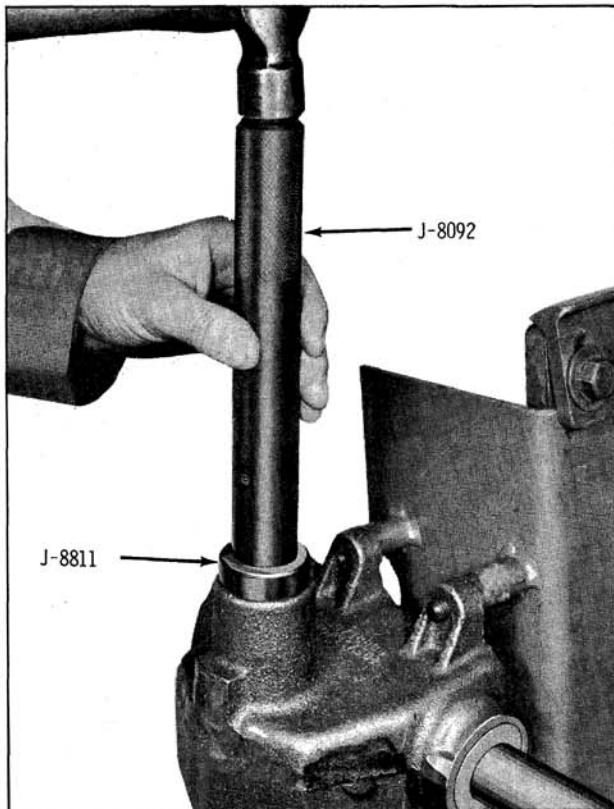

Fig. 8-16 Installing Pitman Shaft Seal
2. Place a new seal into housing with lip of seal facing inward. Drive seal in the housing until it bottoms against shoulder of counterbore, using Tool J-8811. (Fig. 8-16) Coat lip of seal with seal lubricant, Part No. 1050169.